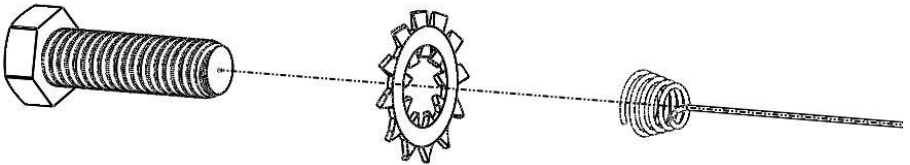

Figure 2A.1
- Attach one **$3/8$ "-16 x 1-1/4" SS Hex Bolt** with one **$3/8$ " Star Washer** to the coiled end of the **$3/8$ " Bolt Fisher** as shown in *Figure 2A.1*.